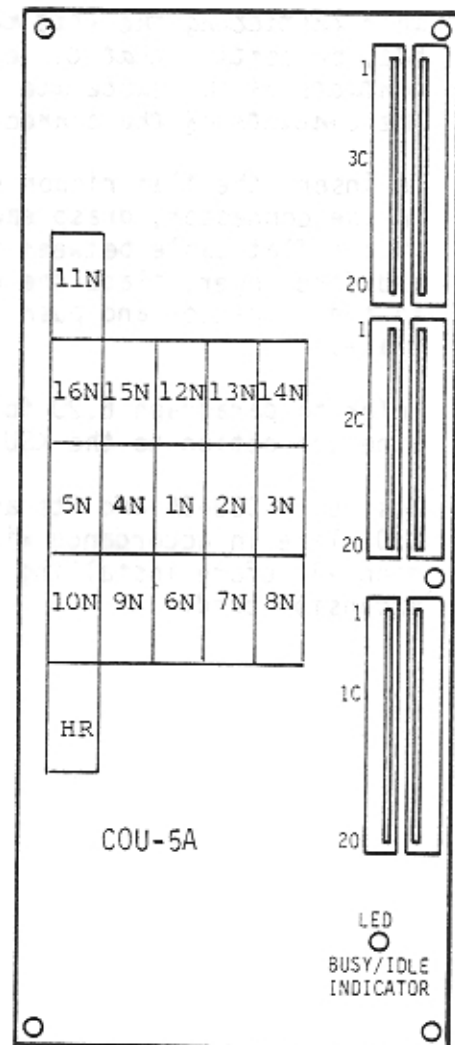

Figure 13 - COU-5A Abbreviated Card Layout
7.20 There are no strapping options on the COU-5A card. An LED is provided to indicate a busy or idle condition. Figure 13 shows the ribbon cable connectors and the LED.